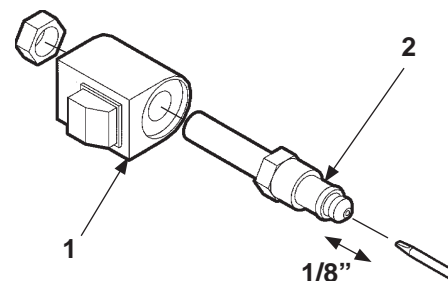

FIG. 66-2
2. Check the valve stem by removing the coil assembly (**Item 1, FIG. 66-2**). With platform on ground, unscrew the valve stem (**Item 2, FIG. 66-2**) from the pump. Push on the plunger that is located inside the valve stem by inserting a small screwdriver blade in the end. If the plunger does not move freely, (approximately 1/8") replace the valve stem. **When reinstalling valve stem, torque hex nut to 30 in-lbs.**